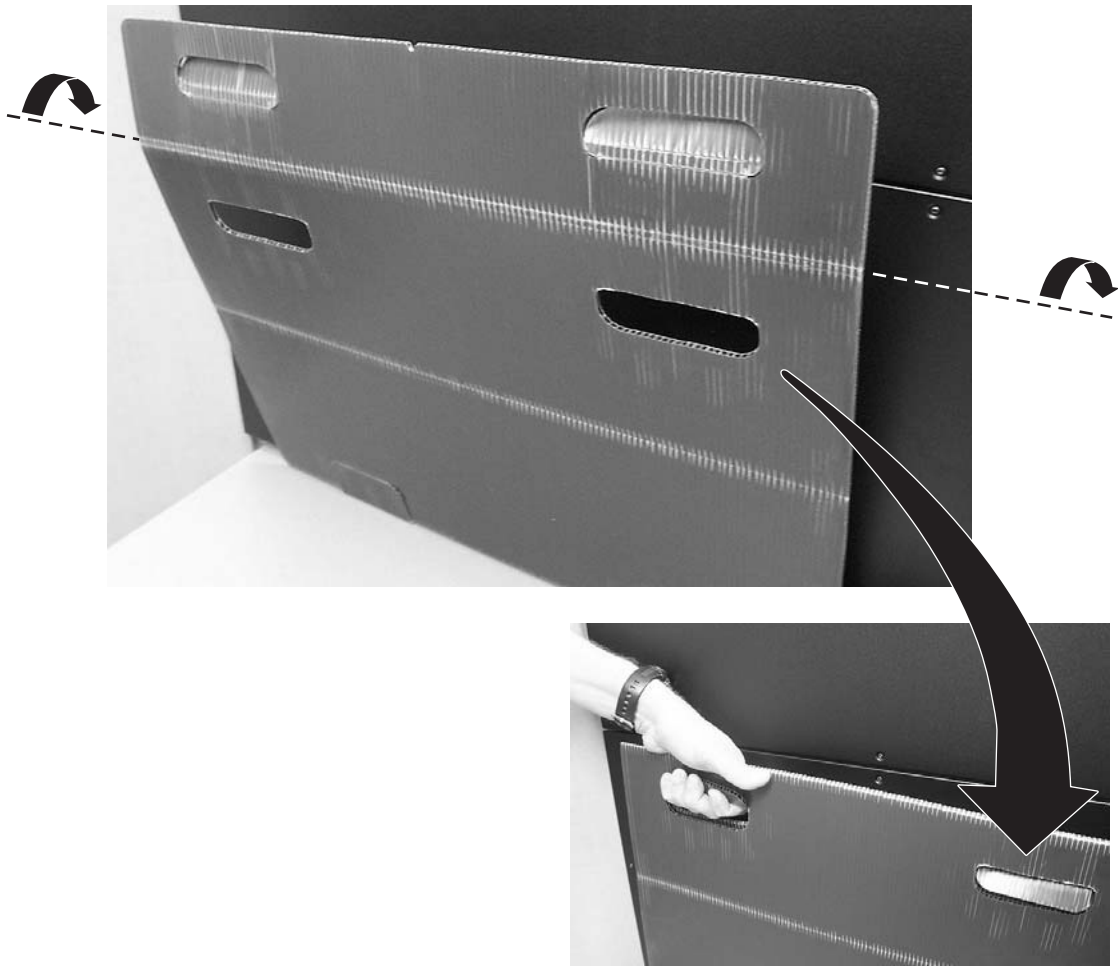

Figure 3-22. Sling
4. With a person on each side of the module, lift the module with the sling provided. See Figure 3-22 on page 3-24 to see how the sling handles should be folded.